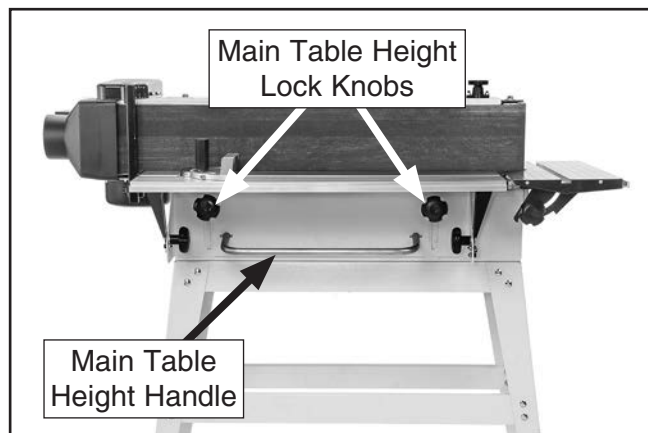

Figure 30. Main table height lock knobs and handle location.
2. Loosen main table height lock knobs (see **Figure 30**).
3. Raise or lower main table, using main table height handle as leverage (see **Figure 30**).